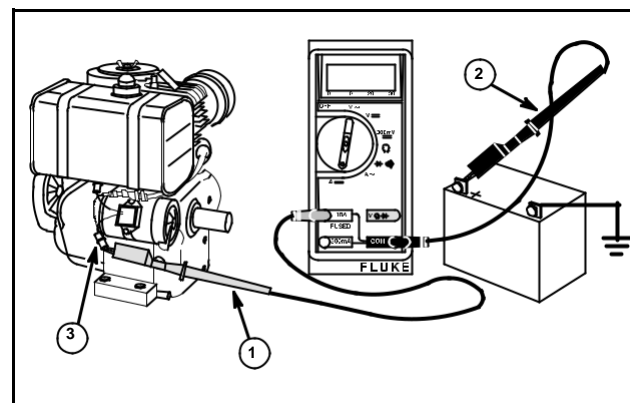

Fig. 33
1. Insert RED test lead (1) into 10 A receptacle in meter.
2. Insert BLACK test lead (2) into COM receptacle in meter.
4. Attach RED test lead clip to DC output terminal on regulator-rectifier (3), Fig. 33.